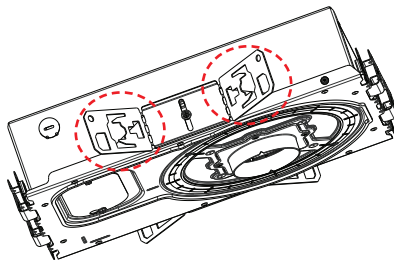

fig. 8
- a. Use bar stock or C-channel (not provided) to mount the D2 in the ceiling. The supports should go through the holes in the butterfly brackets and can be used to suspend the D2 (see fig. 8).